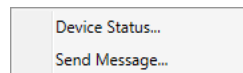

Figure 3-42 – HAR Context Menu
- **HAR Context Menu** (see Figure 3-42): If the operator currently owns any incident, this context menu provides the operator with a list of response plans to which the HAR can be added. The context menu also allows the operator to pull up control dialogs with the specific HAR (being hovered over) being selected in the control GUI.